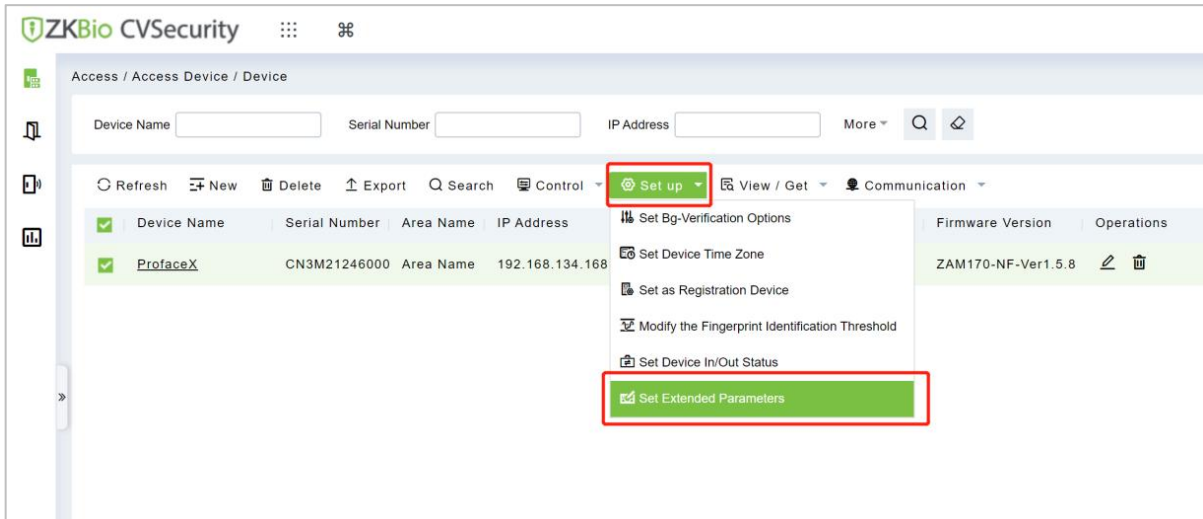

Figure 13-2 Setting Interface of Epidemic Prevention Parameters
Step 3: In the interface of setting extended parameters, you can view the epidemic prevention parameters on the device, as shown in Figure 13-2. Please refer to Table 13-1 for parameter